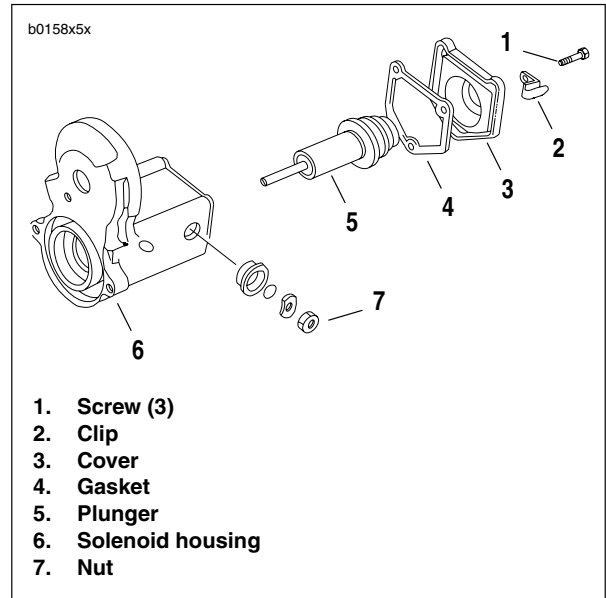

Figure 5-28. Starter Solenoid
See Figure 5-28. Do not tighten nut (7) without removing items 1-5. Movement will cause damage to the contact.
1. See Figure 5-28. Remove screws (1) and clip (2).
2. Remove cover (3) and gasket (4). Discard gasket.
3. Remove plunger (5) from solenoid housing (6).
1. See Figure 5-28. Replace wire connection hardware as necessary.
2. Install plunger (5) in solenoid housing (6).
3. Install **new** gasket (4) onto cover (3).
4. Position cover with gasket onto solenoid housing. Install clip (2) and screws (1).